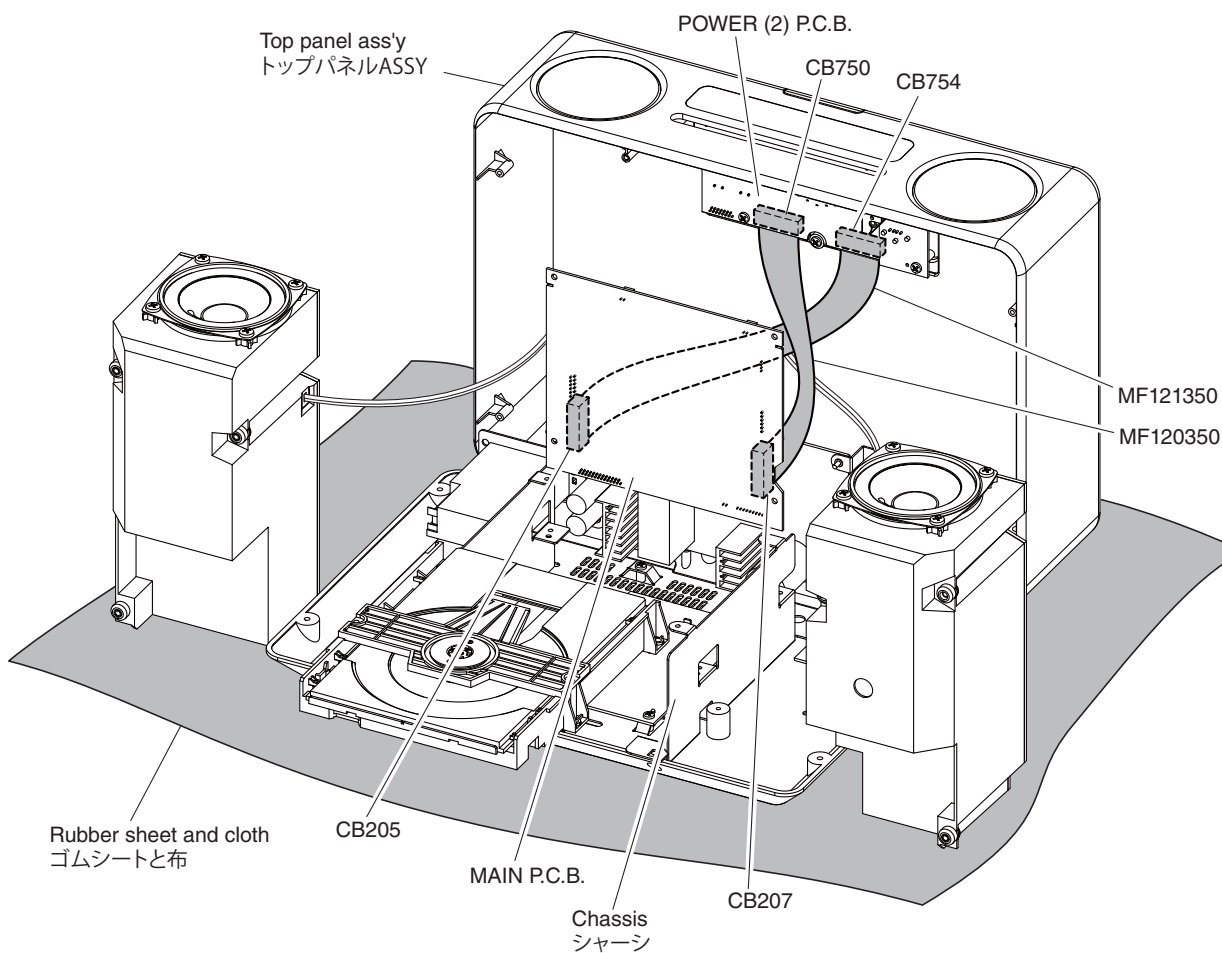

Fig. 4
- Spread the rubber sheet and cloth. Then, place this unit on them as shown below and check it. (Fig. 4)
- ゴムシートと布を敷き、本機を下図のように置いてチェックします。(Fig. 4)